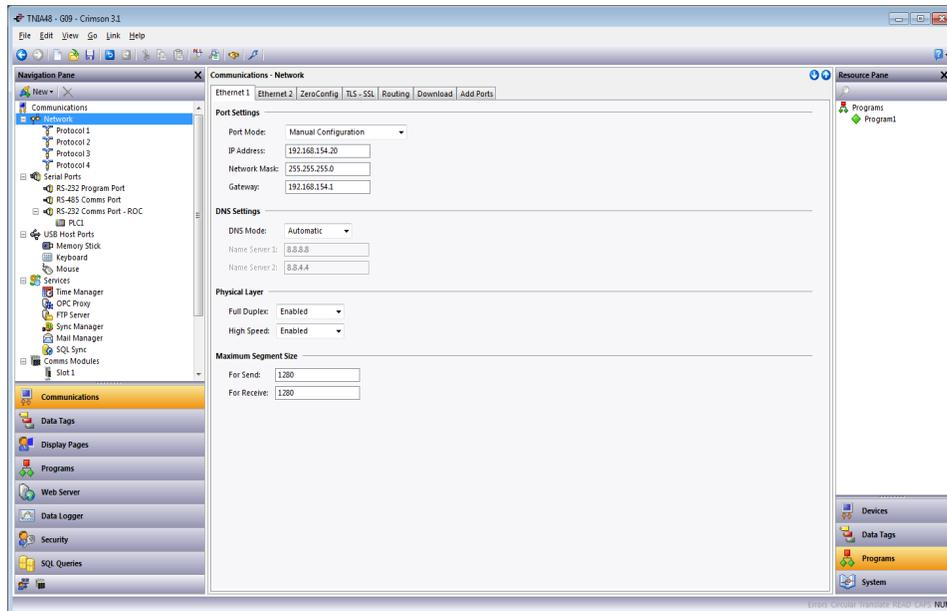

Figure 9.
1. Referring to Figure 9, navigate to the Communications section.